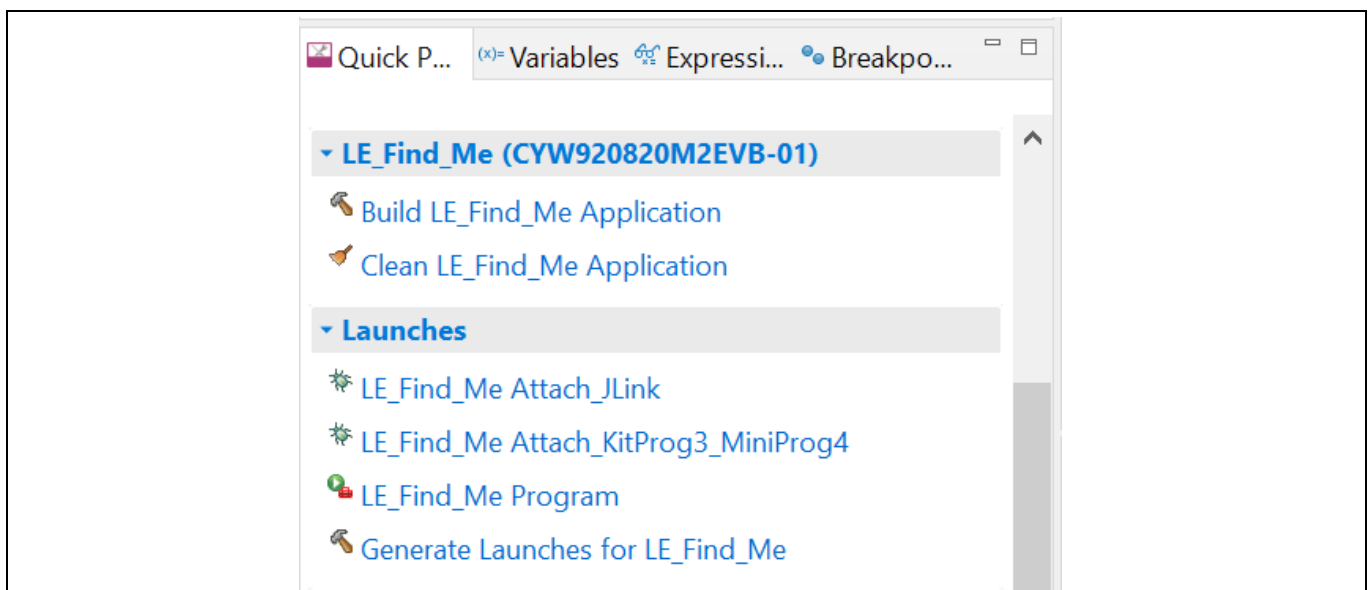

Figure 33 Programming the CYW20820 device from ModusToolbox™
4. Build and program the application: In the Project Explorer, select the **<App Name>_LE_Find_Me** project. In the Quick Panel, scroll to the **Launches** section, and click the **<App Name> Attach_KitProg3_MiniProg4** configuration as shown in **Figure 33**.